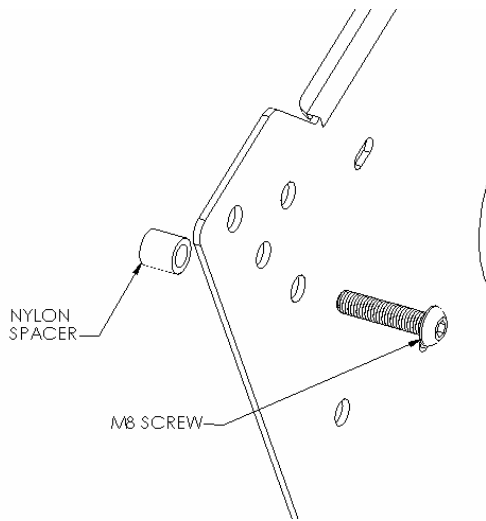

Figure 4
2. Place nylon spacers on mounting holes and align hole pattern on brackets with pattern on back of Plasma Display (see Figure 4 & 5). Attach bracket utilizing the M8 button head screws.